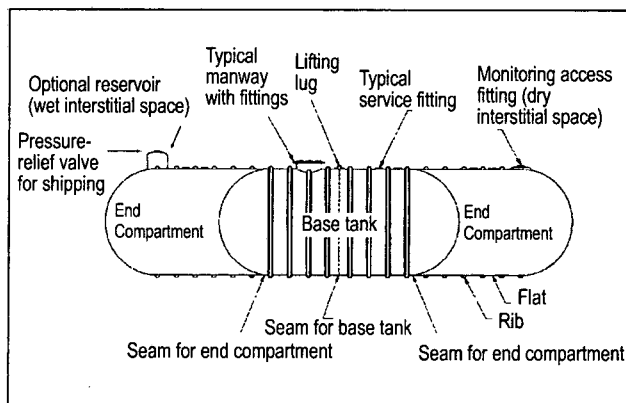

FIGURE 4-1
4.5.1.1. Install a test manifold in each compartment, that is, in the base tank and each end compartment. See FIGURE 4-1.